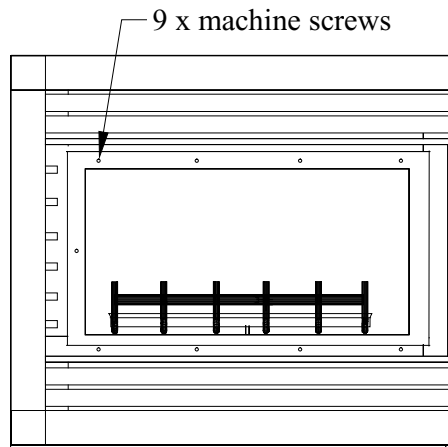

Figure 17. Removing inner doors.
The inner (combustion) doors are located behind the outer decorative doors. To remove the inner doors, simply unscrew the nine (9) machine screws on the top, bottom and side of the door. (See figure 17).